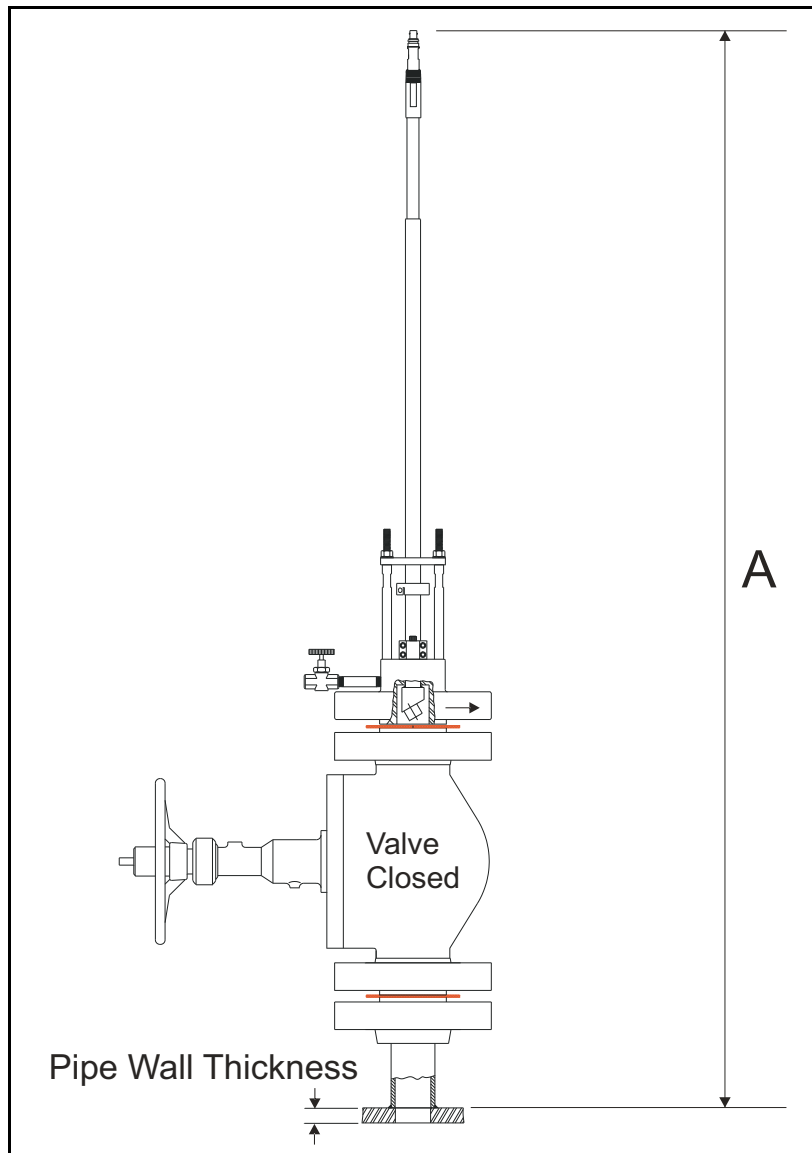

Figure 17: Measuring the "A" Dimension
7. Measure the "A" dimension, which is the distance from the outside surface of the pipe wall to the end of the BNC connector on the transducer (see *Figure 17* below). Then, calculate the insertion distance ("I") by using the following equation: